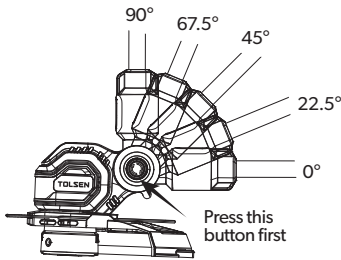

Figure 8
- The cutting Angle of the cutting head can be adjusted according to the actual cutting requirements. The cutting Angle can be adjusted from 0°-22.5°-45°-67.5°-90°, as shown in figure 8.